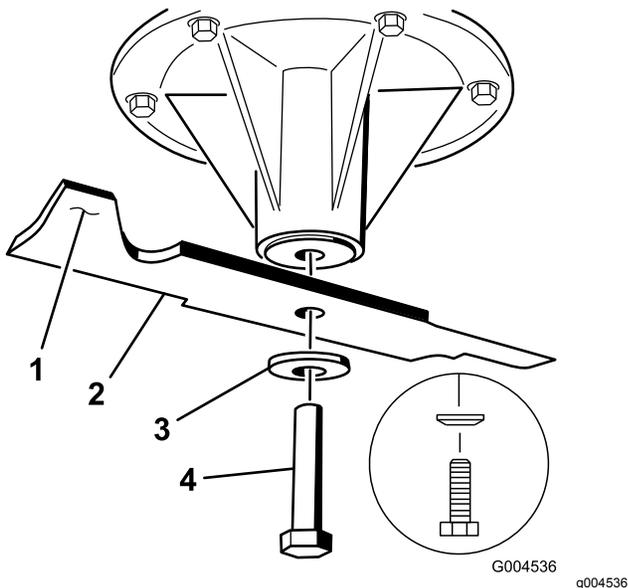

Figure 110
2. Remove the blade bolt, the curved washer, and the blade from the spindle shaft (Figure 110).